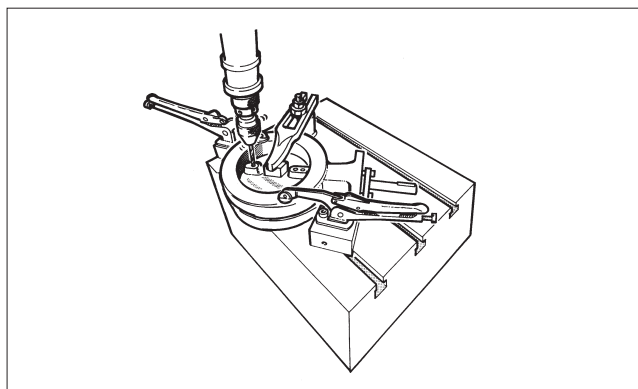

Fig. 13 Drilling the pins
- Remove the clamp ring (2) and seat ring (4) according to section 5.5.
- Set the valve horizontally on a sturdy surface so that the flat side of the disc lays against the surface (see Fig. 13).